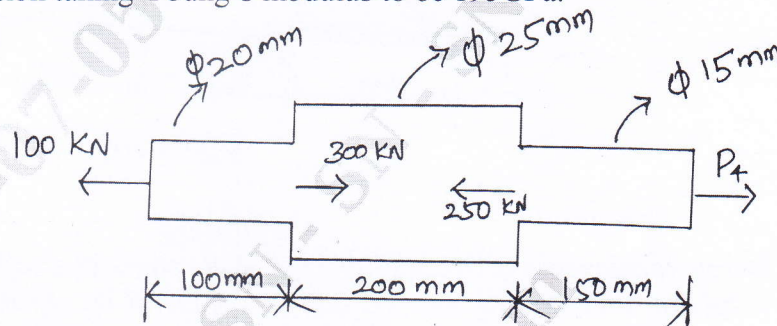

Fig Q1(b)
- b. Determine the stresses in various segment of the circular bar shown in Fig Q1(b). Compute the total elongation taking Young's modulus to be 195GPa.